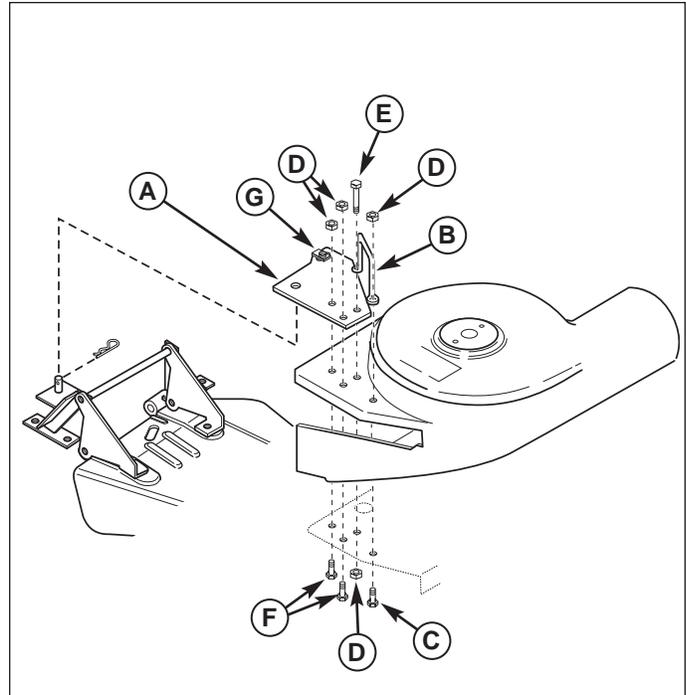

Figure 5. Assemble Turbo
1. Assemble the turbo. Install the bracket (A, Figure 5) and upstop (B) as follows:
NOTE: Upstop (B, Figure 5) has short and long leg. The difference is the thickness of bracket (A). Place long leg on housing and short leg on top of bracket. Washer(s) may need to be added under each leg of upstop if deflector contacts housing. See ADJUSTMENTS.
2. Install 1/4-20 x 7/8 capscrew (C) from inside turbo housing. Place upstop (B) on capscrew and secure with 1/4-20 locknut (D).
3. Install 1/4-20 x 2-1/4" full thread capscrew (E) through upstop (B), bracket (A), and housing. Secure with 1/4-20 locknut. End of capscrew should touch bottom housing surface.
4. Install 1/4-20 x 3/4 capscrew (F) to secure bracket to housing. Secure with 1/4-20 locknuts (F).